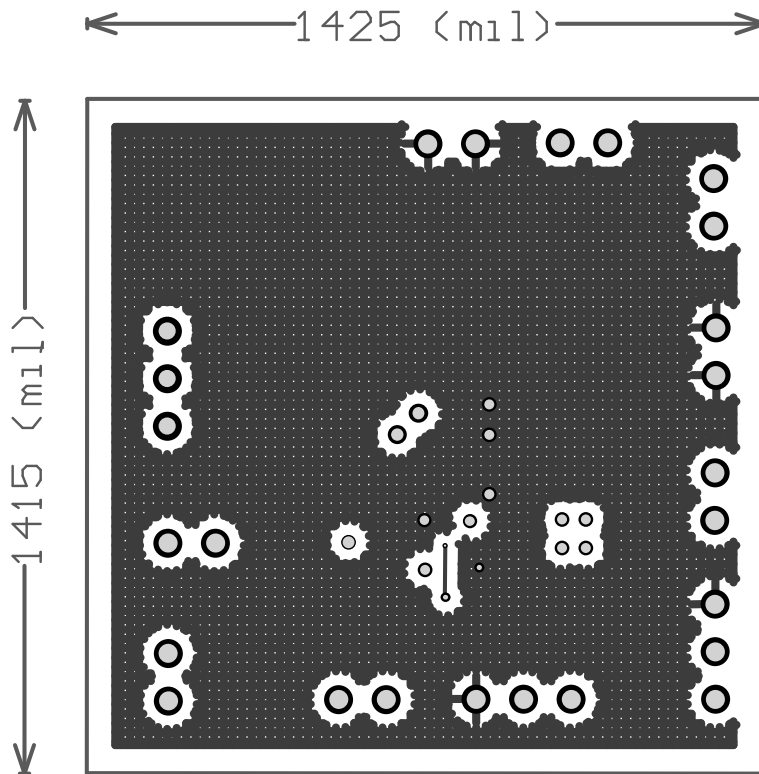

Figure 2. LM3508 Evaluation Board Layout Mid Layer 1
- EN is a 3-position jumper (see the bottom right jumper in Figure 2). The middle pin connects to EN of the device. The top pin of the EN header connects to PGND (device disabled) and the bottom pin connects to the VIN (device enabled).
- DIM is a 3-position header (see Figure 2). The middle pin connects to DIM of the LM3508. The left pin of the DIM header connects to PGND (current source off). The right pin connects to VIN (current source on with max LED current of 20 mA). Drive DIM with a PWM waveform ($V_H > 1.1V$, $V_L < 0.5V$) at up to 100 kHz to adjust the LED brightness.
- 2 3 4 LEDs is a 3-position header (see Figure 2). Leave open to configure the board for four series LEDs. Place a jumper across the top and middle pin to short D3 and D4 (2 LED solution). Place a jumper across the bottom and middle pin to short only D4 (3 LED solution).